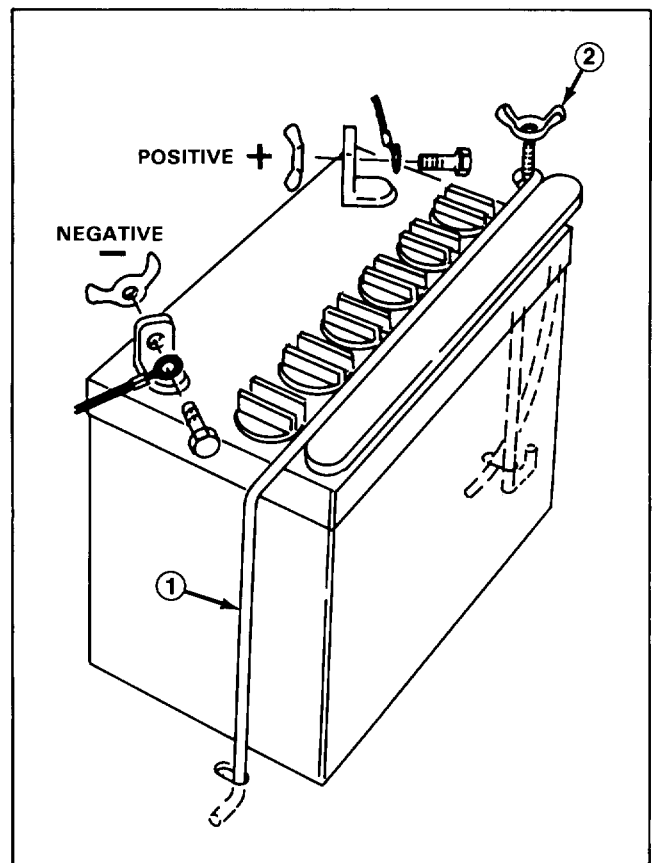

Figure 3
1. Remove wing nut securing battery hold downs to rider chassis. (Fig. 3).
7. Install the battery with the terminal posts toward the center of the machine and vent tube thru hole in frame (Fig. 3).
9. Install the positive cable to the positive (+) terminal and the negative cable (black) to the negative (-) terminal of the battery and secure with capscrews and wing nuts (Fig. 3).